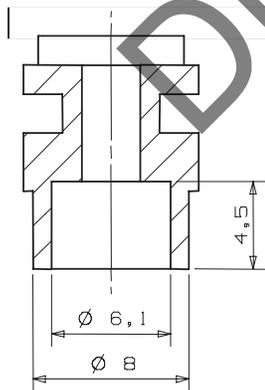

Figure 12. Pick and Place Nozzle Design.
- The inner diameter of a vacuum pick-up nozzle should be greater than 6.1mm to avoid damage to the optical surfaces of the lens. See figure 12 for an example of a pick-and-place nozzle.
Figure 12 shows an example of a pick-and-place nozzle for use with LUXEON Emitters. Use the following design rules for the nozzle design: